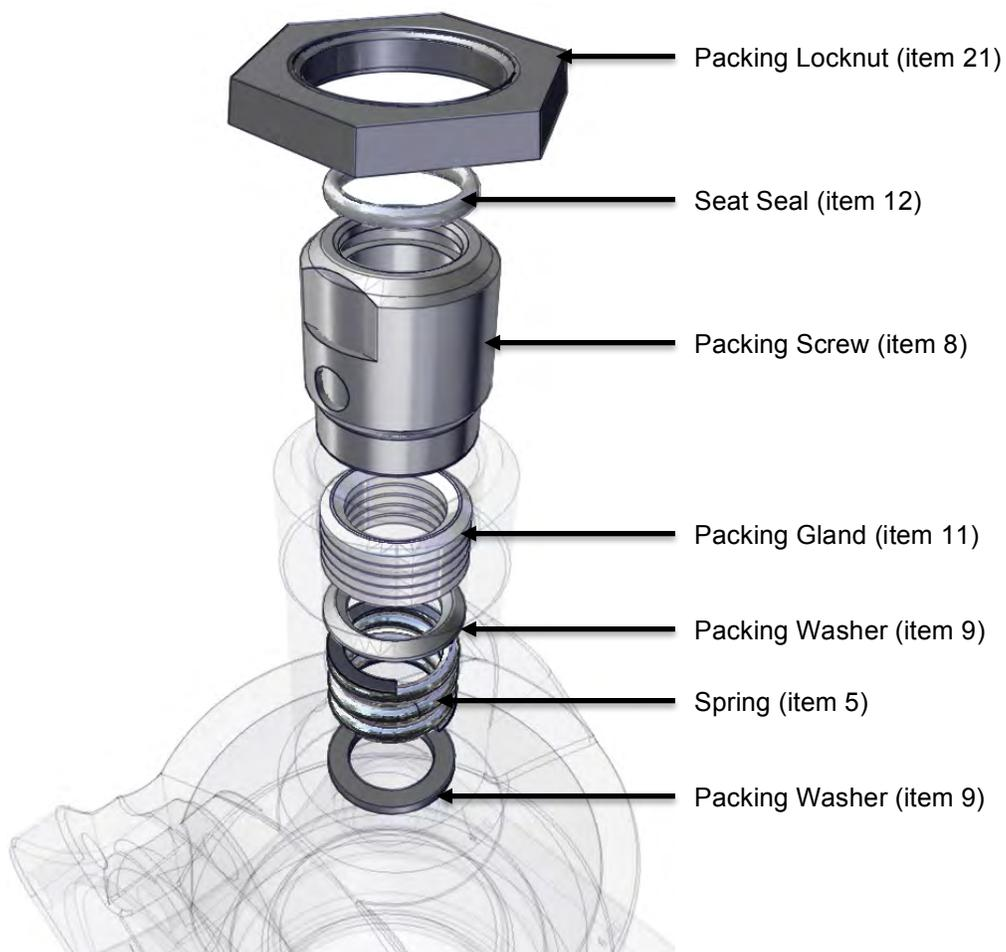

Figure 7-1 Reassembly Steps 7.2.1 through 7.2.7
- 7.2.1 Place the lower (flat) packing washer (item 9) in the body (item 4); see Figure 7-1.
- 7.2.2 Put the spring (item 5) in the body; see Figure 7-1.
- 7.2.3 Install the upper (curved) packing washer (item 9) in the body, with the convex side up; see Figure 7-1.
- 7.2.4 The 3" valve uses 5 Teflon V-rings (item 11) in the body; see Figure 7-1.
- 7.2.5 Insert the stem seal (item 12) in the packing screw (item 8); see Figure 7-1.
- 7.2.7 Screw down the packing locknut (item 21) a couple of threads on the packing screw); see Figure 7-1.